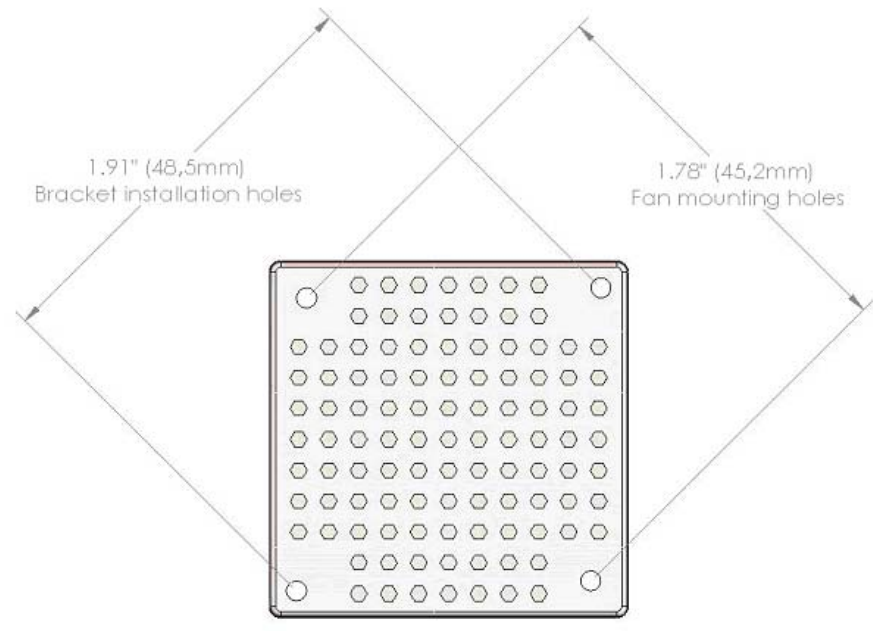

Figure 3
- ❑ Please refer to figure 3 page 1 to identify the adequate mounting holes for the brackets.